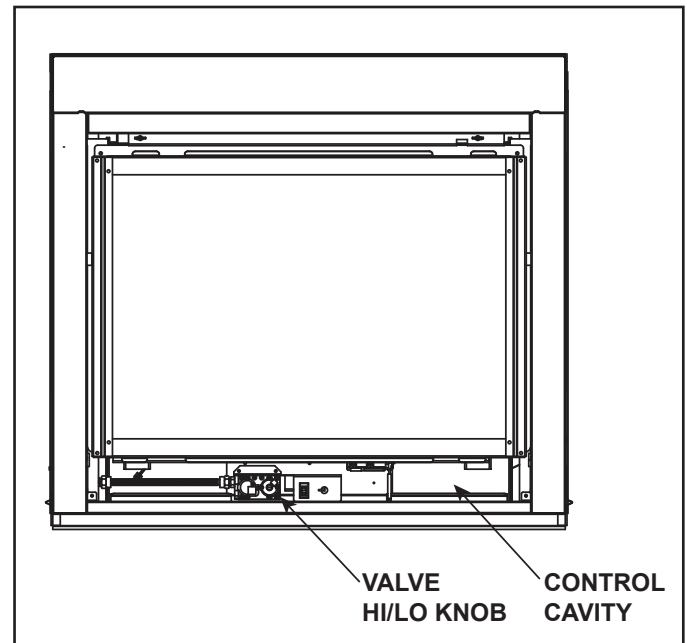

Figure 3.5 Control Cavity/Valve Location
The DV3732-B and DV4236-B model has a variable burn rate which is controlled by the HI/LO knob on the gas valve. Therefore the flame height is adjustable. The HI/LO knob is shown in Figure 3.5. It is located in the control cavity of the appliance. The HI/LO knob may be adjusted as desired by turning clockwise to the HIGH position and by turning counterclockwise to the LO position.
The IntelliFire® intermittent pilot ignition system comes with a battery backup system that enables the system to operate in a power outage. A factory-installed battery pack is located in the control cavity of the appliance. See Figure 3.5. Batteries should not be placed in the battery tray while using electrical power to operate the fireplace. Remove batteries from battery tray when power has been restored.
1. Access the control cavity of the appliance. See Figure 3.5 for location. The decorative front may need to be removed.